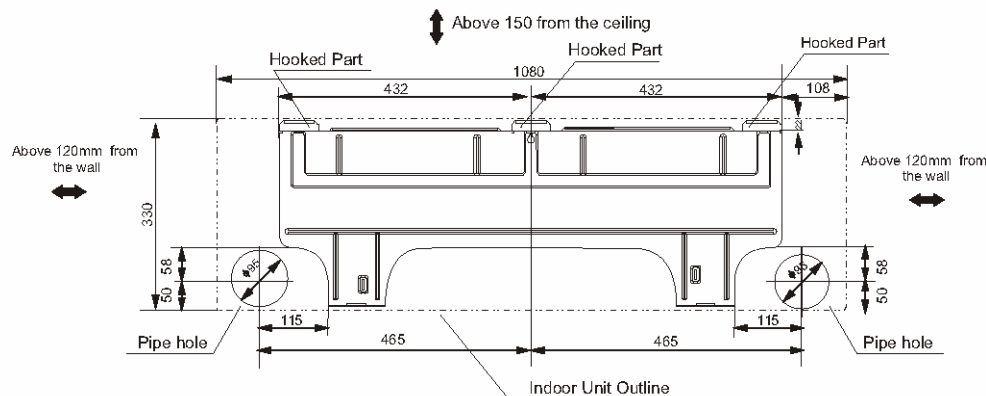

Fig.5
1. Determine hole positions according to the diagram detailed in Fig.5. Drill one (1) hole (Φ 95mm) slanting slightly to outdoor side.